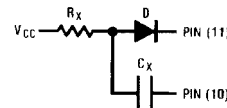

FIGURE 2.
- If C_X is an electrolytic capacitor a switching diode is often required for standard TTL one-shots to prevent high inverse leakage current Figure 2.